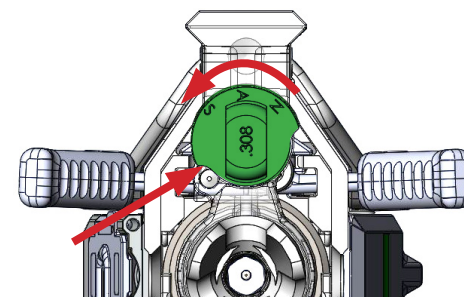

Fig. c-1
1. Rotate the gas valve 180 degrees to where the "A" firing condition rib is at the 12 o'clock position, then pull the gas valve out of the gas block. It may be necessary to depress the detent to allow rotation. Use a punch tool if necessary. (Fig. c-1)